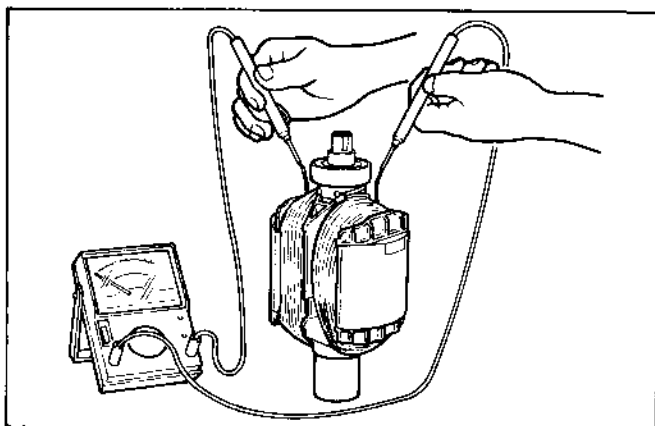

Fig. 11-4
- Measure the resistance of field coil with a circuit tester. (See Fig. 11-4.)